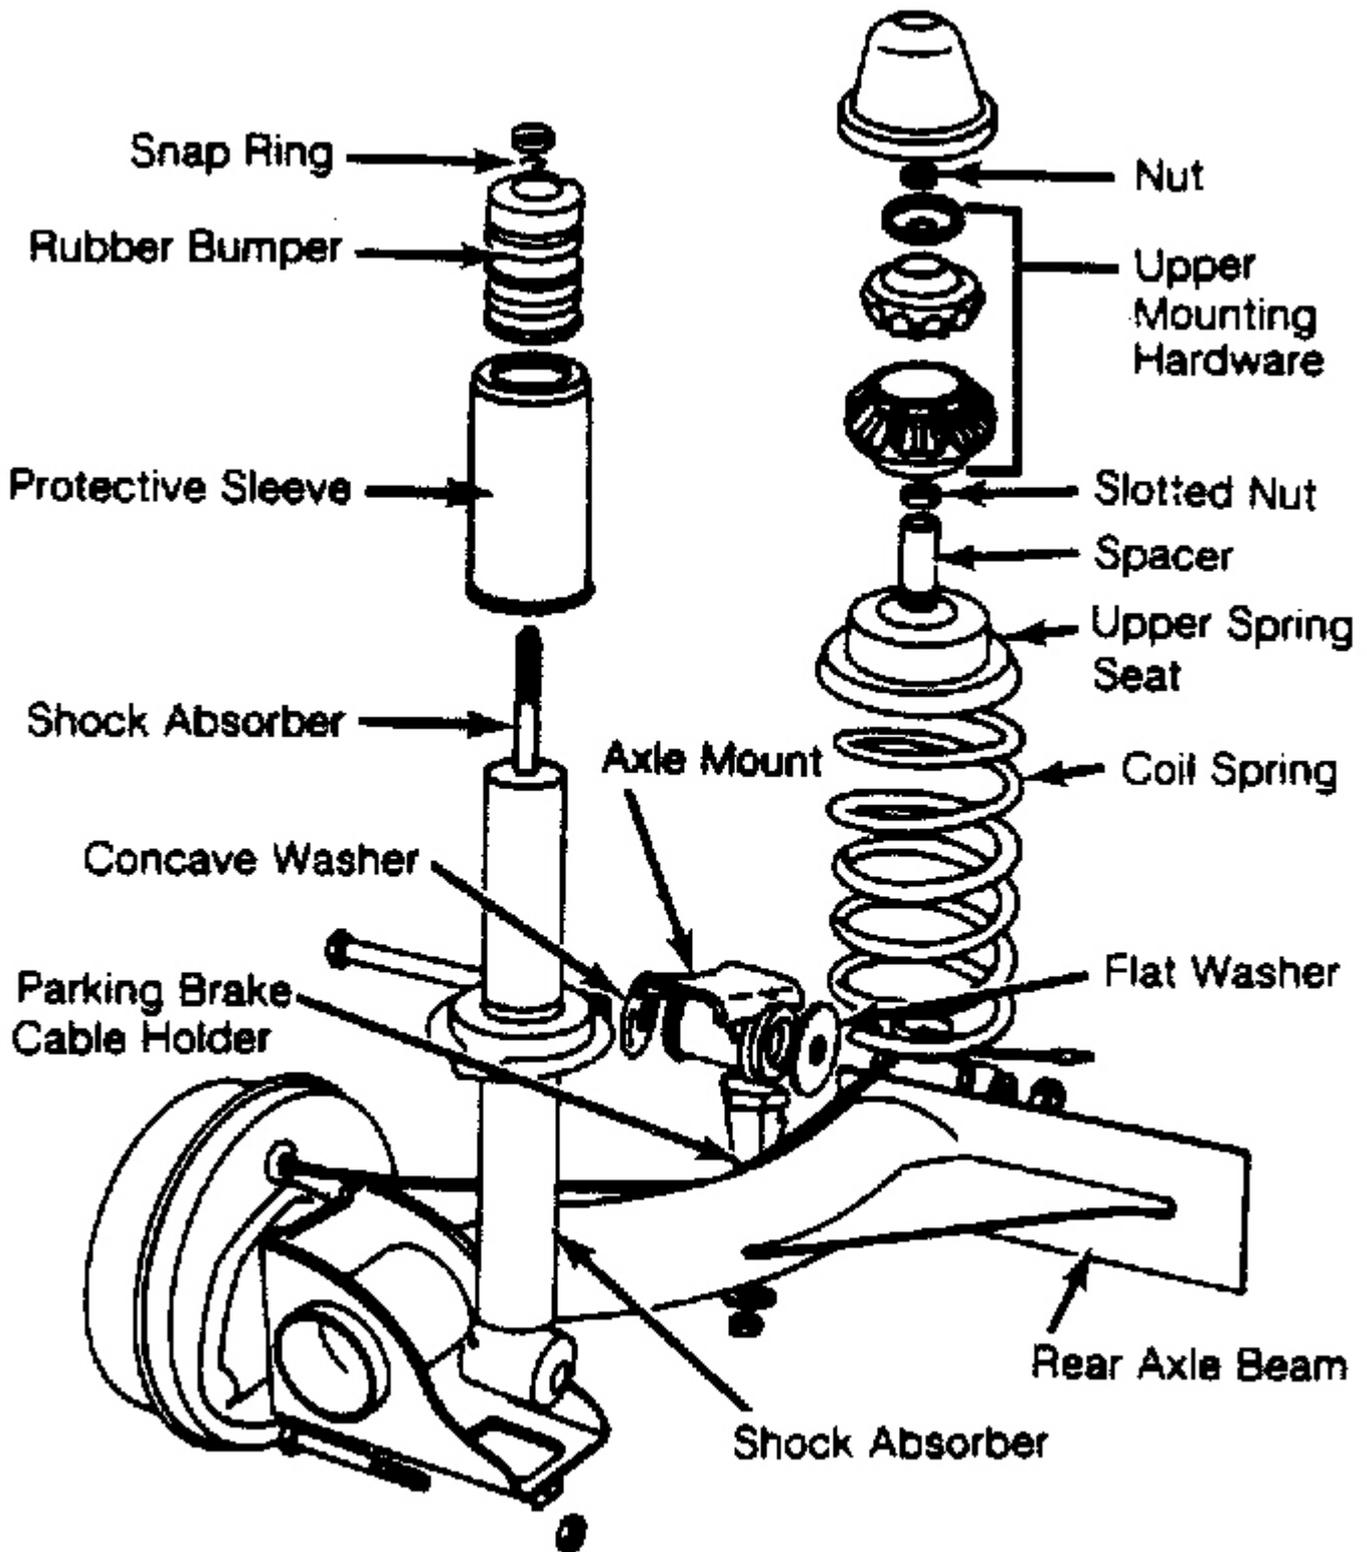

Fig. 1: Identifying Rear Suspension Components (Typical)
Suspension uses control arms and axle beam for stabilization. Control arms and axle beam are combined as one unit. Brake drums or discs rotate on stub axles bolted to control arms. See **Fig. 1**.
2. Hold piston rod. Remove strut/shock retaining nut and related components. See **Fig. 1**. Remove slotted nut (some models). Remove spacer and coil spring. If coil spring is to be replaced, ensure paint stripe color on replacement spring matches original spring color stripe.